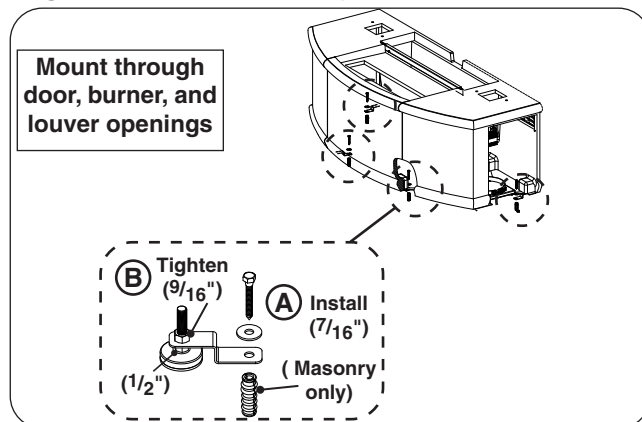

Fig. 24-3 Mount unit to floor (695 models only)
5. **695 models only:** Secure the hearth to the floor using the 4 pre-installed mounting brackets. Use a $\frac{7}{16}$ " open end wrench and the supplied mounting hardware as appropriate. See Fig. 24-3, A.
Finish by tightening down the brackets. Hold a leveler in place (below bracket) with a $\frac{1}{2}$ " open end wrench, and tighten the nut (above bracket) using a $\frac{9}{16}$ " open end wrench. See Fig. 24-3, B.